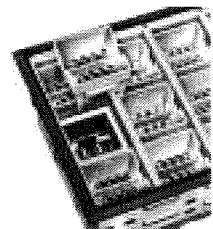

Figure 7: Install LED
**To install:** Make sure that the junction inside the LED unit is aligned in the same direction as the junction of the LED housing. Push the LED unit into the LED housing as shown in *Figure 7*.